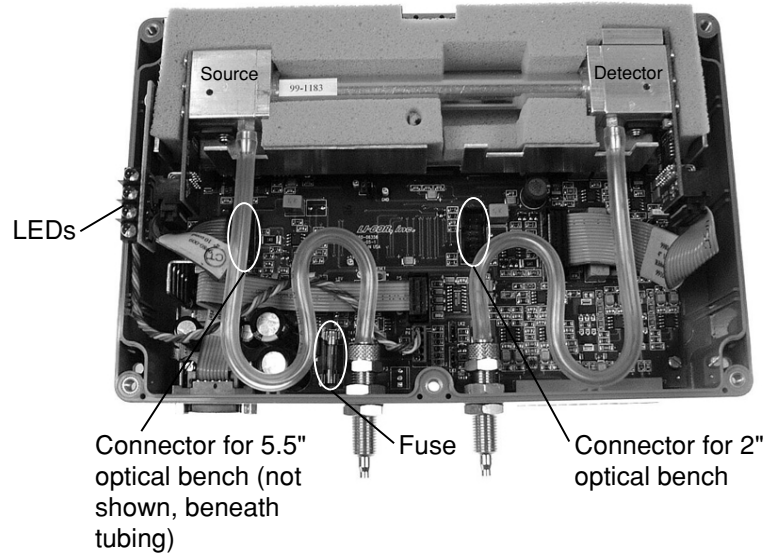

Figure 5-1. Location of 10-pin connectors for 5.5" and 2" optical benches.
3. There are ribbon cables (Figure 5-1 below) connected to the circuit boards on the source and detector housings. Pull straight out on the connector that is attached to each ribbon cable. The optical bench can now be removed from the foam casing.
To check the fuse, remove the six screws on the top of the LI-820. The fuse is located on the main circuit board, near the Flow In port, as shown in Figure 5-1. Replacement fuses (part #439-03952, in the spares kit) plug into the fuse holder; no soldering is required. Replace the fuse and reassemble the LI-820 case.